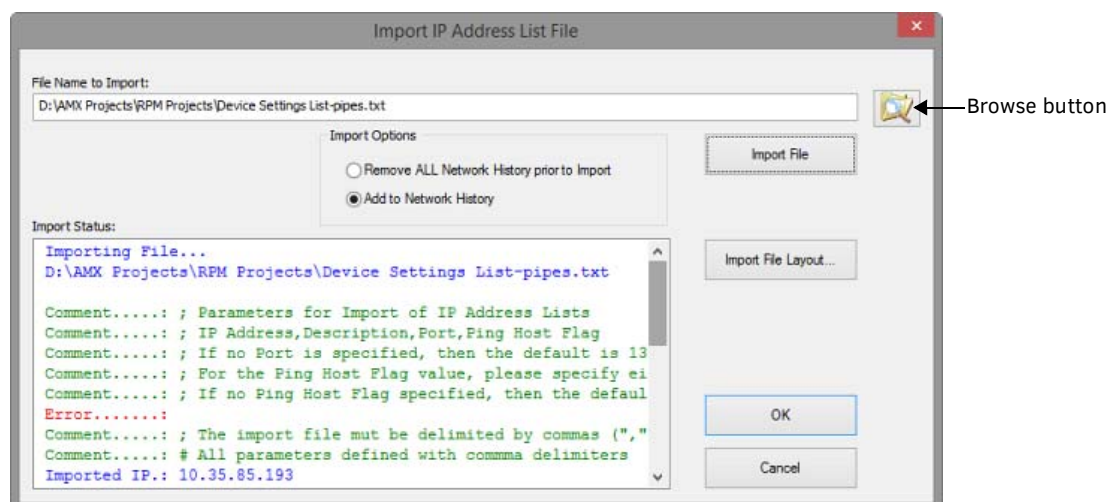

FIG. 67 Import IP Address List File dialog
1. In the *Communication Setting* dialog, click on **Import IP Address List File**. This selection opens the *Import IP Address List File* dialog (FIG. 67):
3. Click the Browse button (see FIG. 67) to locate and select the desired .TXT or .CSV file (via the *Open* dialog). Alternatively, type the path and filename directly in the *File Name to Import* field.